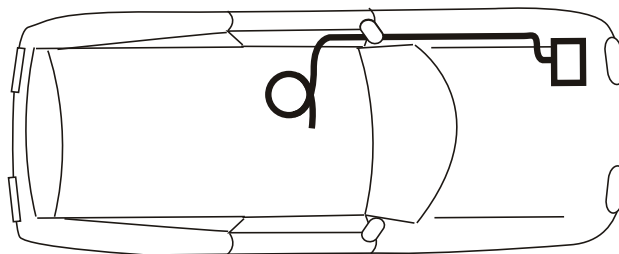

Figure 12-2
3. Run the vehicle harness under and, when possible, through the vehicle back to the rear cargo area/trunk, gaining entry into the vehicle through the firewall. [Figure 12-2]